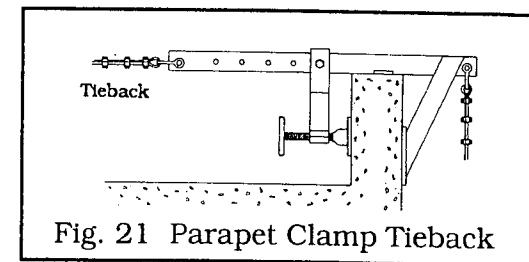

Fig. 21 Parapet Clamp Tieback
**Parapet Clamps**—[Fig. 21] If parapet clamps are used for anchoring, the parapet wall must absorb the total system's weight and therefore must be inspected for structural strength at a 4 to 1 safety factor.